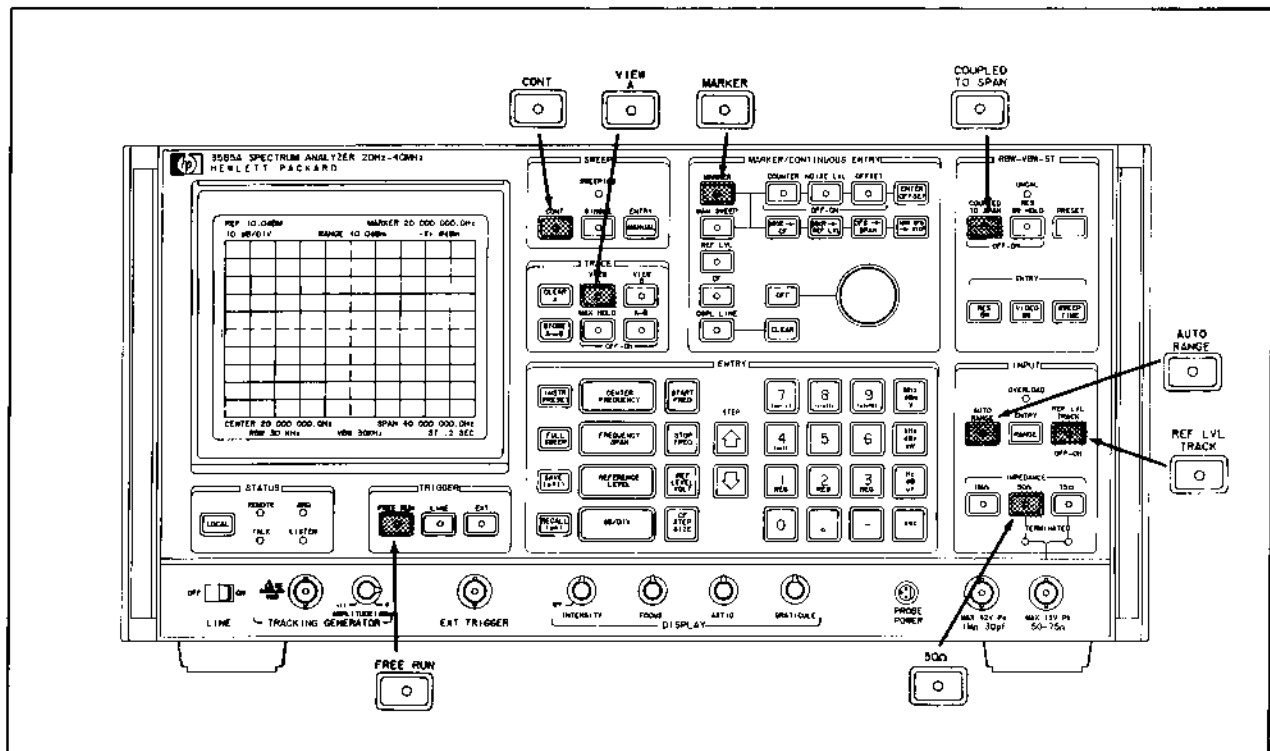

Figure 2-3. Front-Panel Functions Activated At Turn-On
2. Verify that the activated front-panel functions on your instrument correspond to those shown in Figure 2-3.